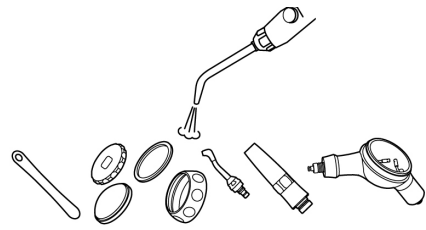

Fig. 27
2. Dry the surface of the products with clean air (Fig. 27).